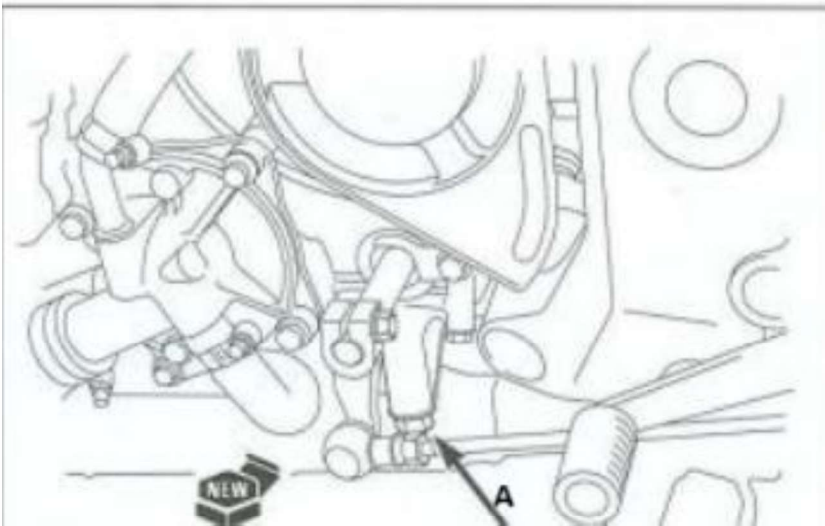

Figure 1
- 5. Remove the drain plug (Figure 1, item A) to drain the engine oil according to the OEM instructions.